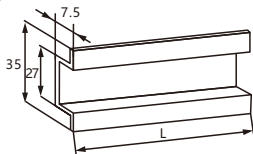

fig 2
6.1 The outline dimension drawing and the installation dimension drawing are shown in Fig. 1 and Fig. 2
10.4 As shown in figure 2, the circuit breaker according to the requirements of the correct wiring and electrification, to circuit breaker signal indicator light.